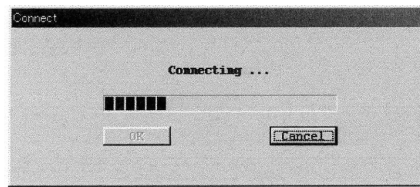

Fig.8
- ⑥ At the message box as shown in Fig. 8, clicking on "OK" button starts the process of connection.